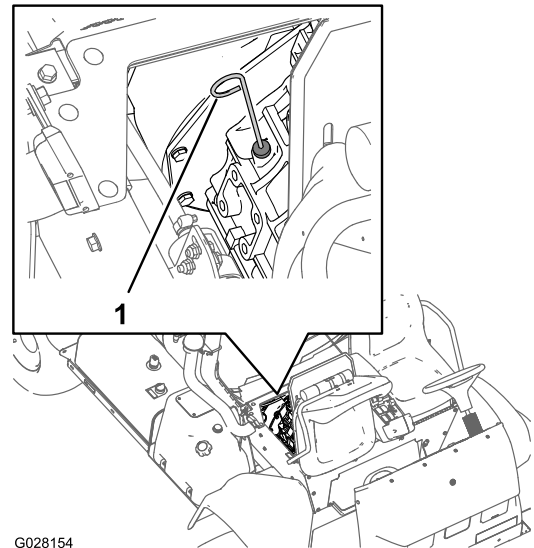

Figure 68
2. Remove the dipstick, located under the passenger seat, and wipe it with a clean rag (Figure 68).